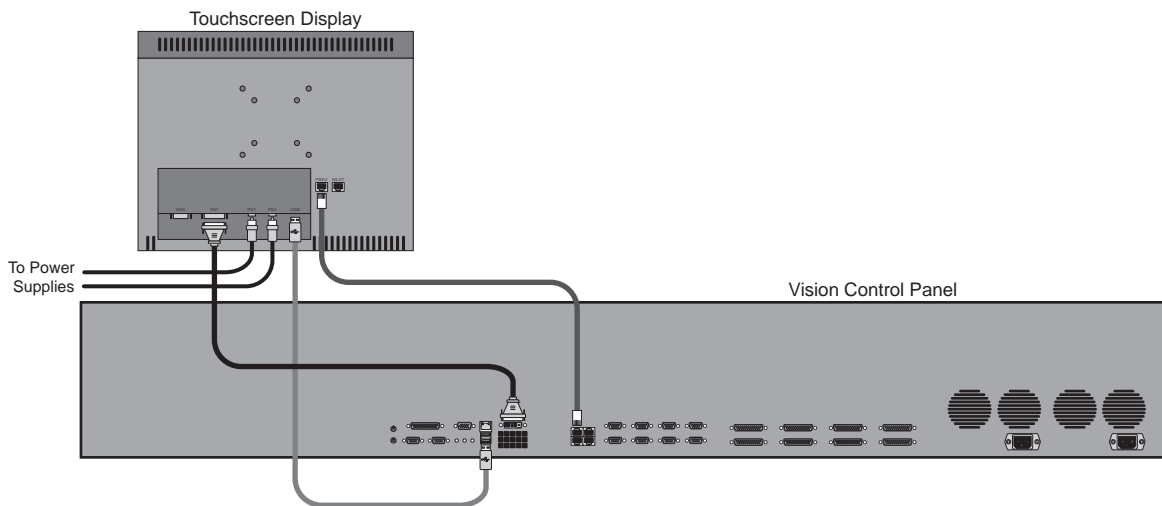

Figure 3.11 Touchscreen Display Connections to the Vision Control Panel
2. Connect and secure one end of the **DVI Cable** to the **DVI** port on the back of the control panel (**Figure 3.11**).